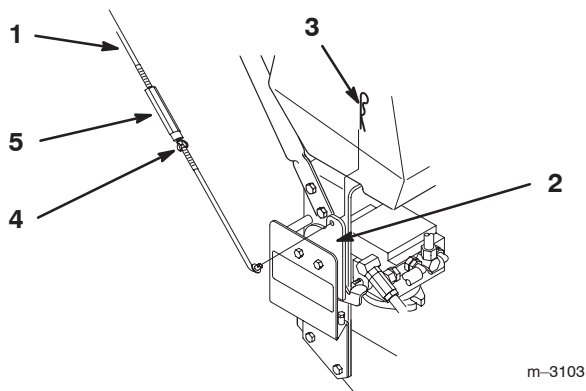

Figure 5
1. Slide rod into control bracket and secure with hairpin cotter (Fig. 5).
3. Loosen wing nut on right control rod and rotate turnbuckle in or out to change tracking. Secure turnbuckle in position with wing nut (Fig. 5).